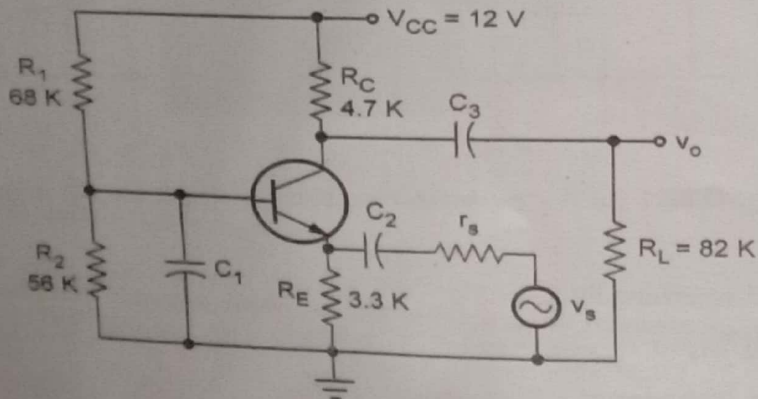

Fig. Q.23.1
Q.23 For the CB amplifier circuit shown in Fig. Q.23.1, if $h_{ie} = 2.1 \text{ k}\Omega$ and $h_{fe} = 100$, calculate input impedance, output impedance and voltage gain.